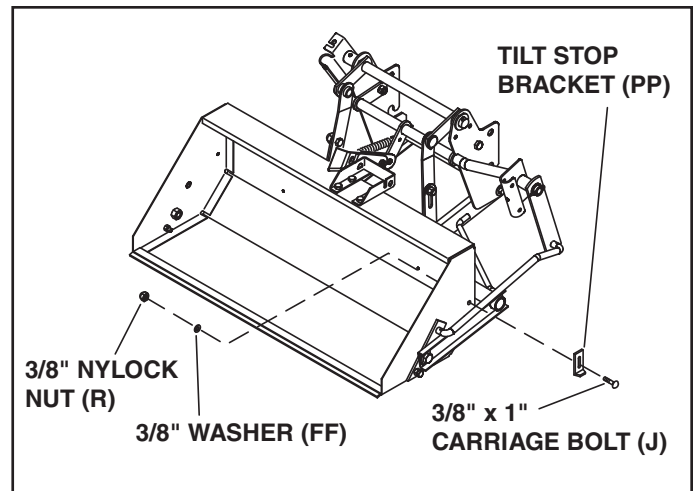

FIGURE 10
STEP 11: INSTALL TILT STOP BRACKETS (SEE FIGURE 10)
- Install a tilt stop bracket (PP) to each side of the bucket using a 3/8" x 1" carriage bolt (J), a small 3/8" washer (FF) and 3/8" nylock nut (R). **Do not tighten** the nuts until step 28.